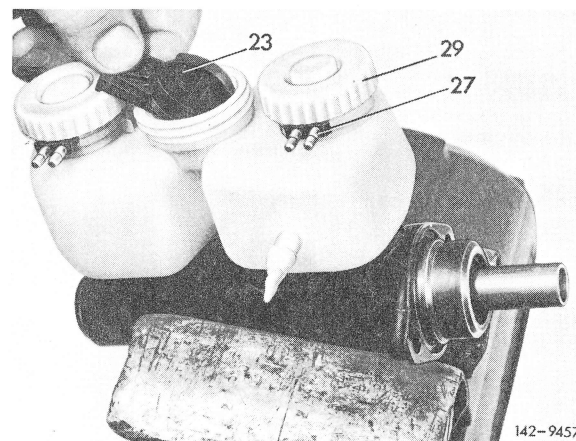

Fig. 21
36 Insert splash guard (23) and strainer into tank and screw-on closing cover (Fig. 21).